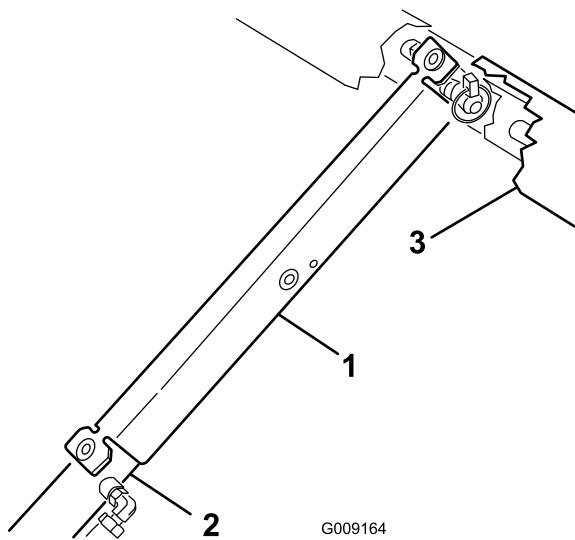

Figure 79
8. Push the bed support onto the cylinder rod, making sure that the support end tabs rest on the end of cylinder barrel and on the rod end of the lift cylinder (Figure 79).